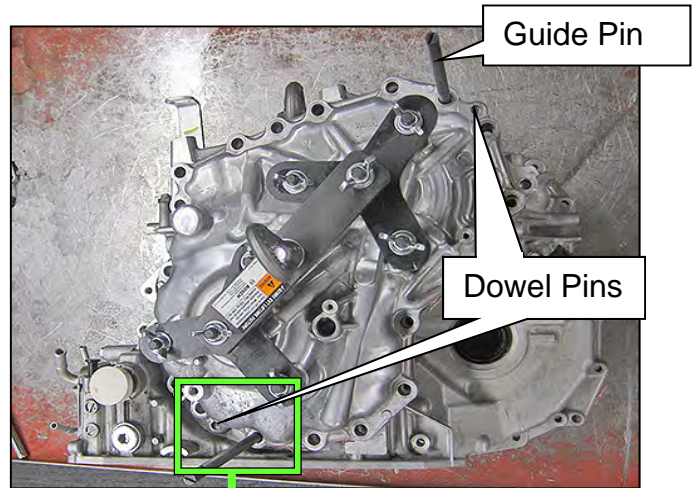

Figure 78
59. Install the two (2) CVT Assembly Guide Pins (J-51959 - Guide Pins) as shown in Figure 78 and Figure 79.